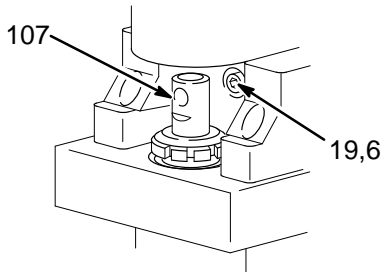
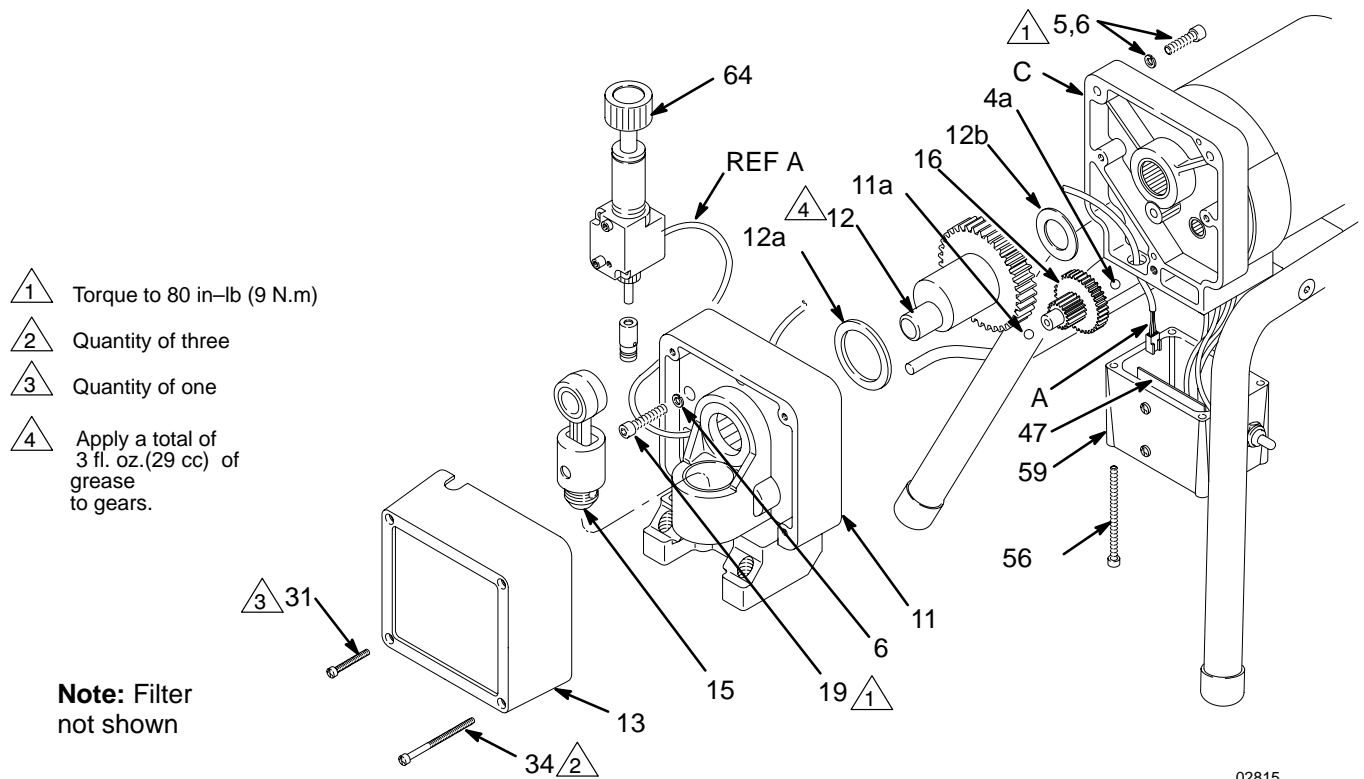

Fig. 23
Fig. 24
2. Remove the pressure control (64). See page 26.
3. Turn the displacement pump rod (107) so the pin hole aligns with the bottom drive housing screw (19). See Fig. 23. Remove the three drive housing screws and lockwashers (19,6). Also see Fig. 24 on page 25.
4. Remove the two motor screws (5) and lock washers (6). See Fig. 24 on page 25.
5. Tap the lower rear of the drive housing (11) with a plastic mallet to loosen the motor. Pull the drive housing straight off the motor.